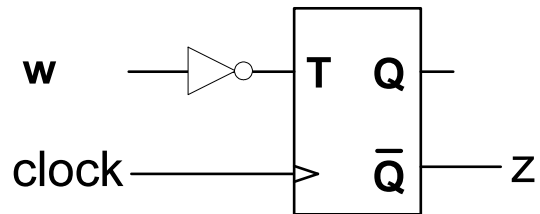

Figure 13 - Circuit for question 19.
19. Consider the sequential circuit shown in Figure 13. Consider the following state assignment: **A** stands for $Q=0$, **B** stands for $Q=1$. The state transition diagram for the circuit from Figure 13 is shown in: